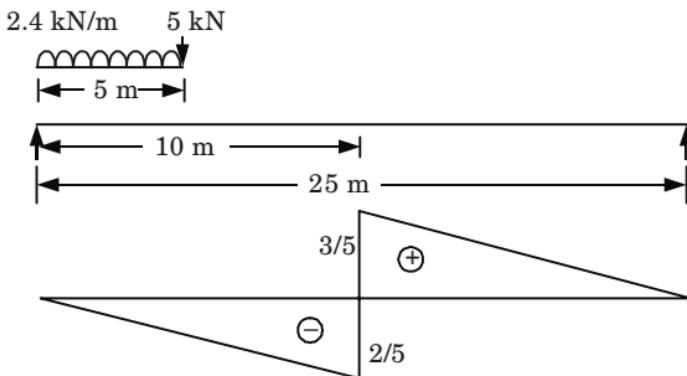

Fig. 4.10.1. ILD of shear force.
- ILD for shear force at section at a distance 10 m from left support is shown in Fig. 4.10.1.